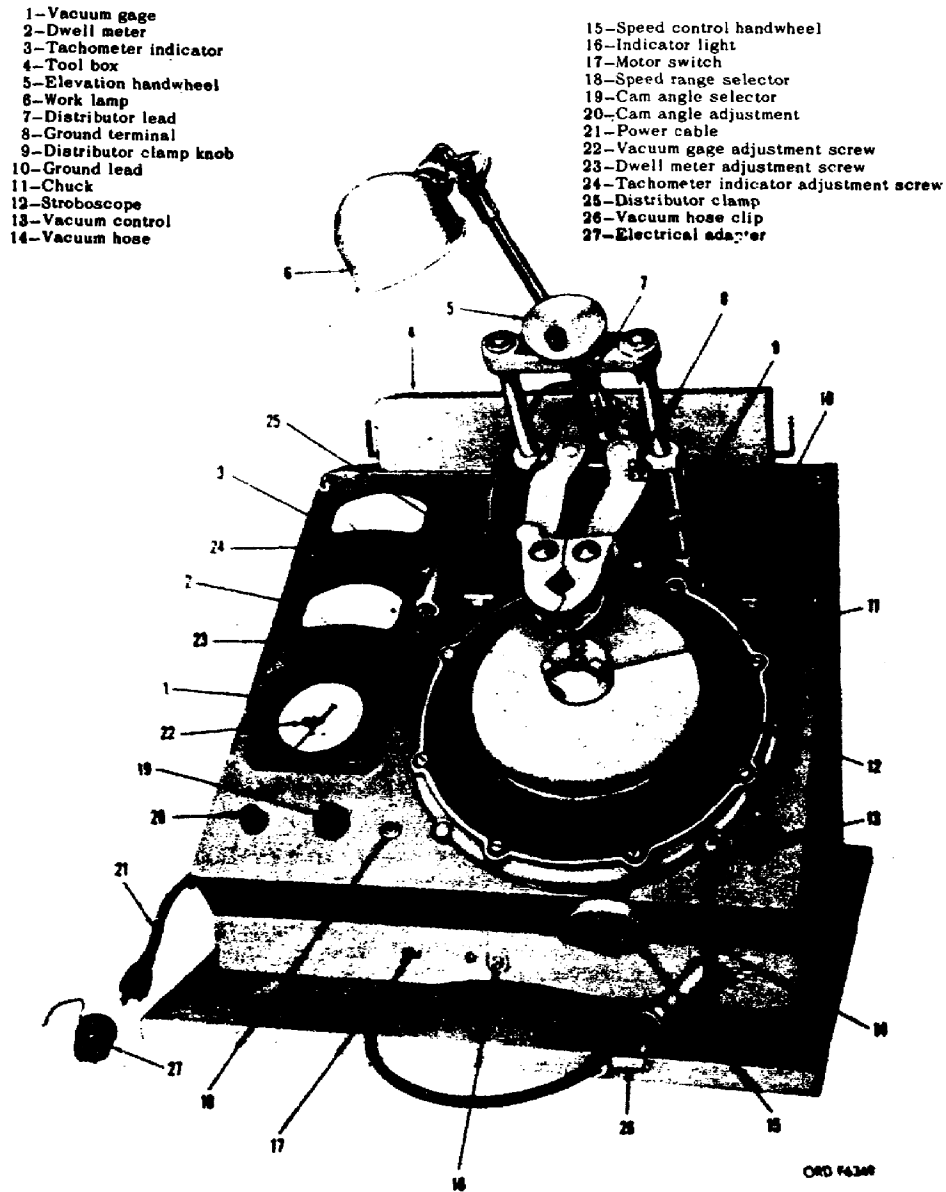

Figure 6. Distributor tester.
a. The distributor tester (fig 6) is an electrically operated device for testing battery ignition distributors removed from the engine. Using the tester, maintenance personnel can determine if a distributor will meet specific tolerances required for satisfactory operation when installed on an engine. A variable speed device, consisting of a belt-driven cone, movable idler, and disk, is used to control the speed and direction of rotation of the distributor under test. The variable speed device is driven by an electric motor which operates from 115 volts, 60-Hz, single-phase, line power. Manifold vacuum is simulated by a vacuum pump which is an integral part of the variable speed device. A stroboscope is provided for accurately checking cam angle, spark advance, and cam lobe accuracy. Both single and dual breaker point distributors can be tested. A tachometer measures the revolutions per minute of the distributor shaft.